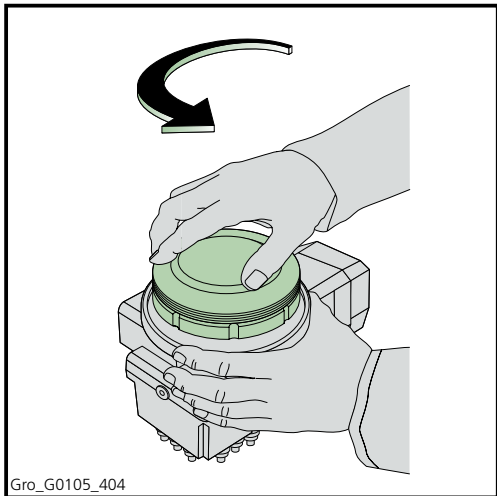

Figure 4.5 Removing the empty cartridge
- 2. Remove the empty cartridge. The cartridge is screwed onto the pump. To remove it, turn it anti-clockwise (Figure 4.5) and lift it straight up.